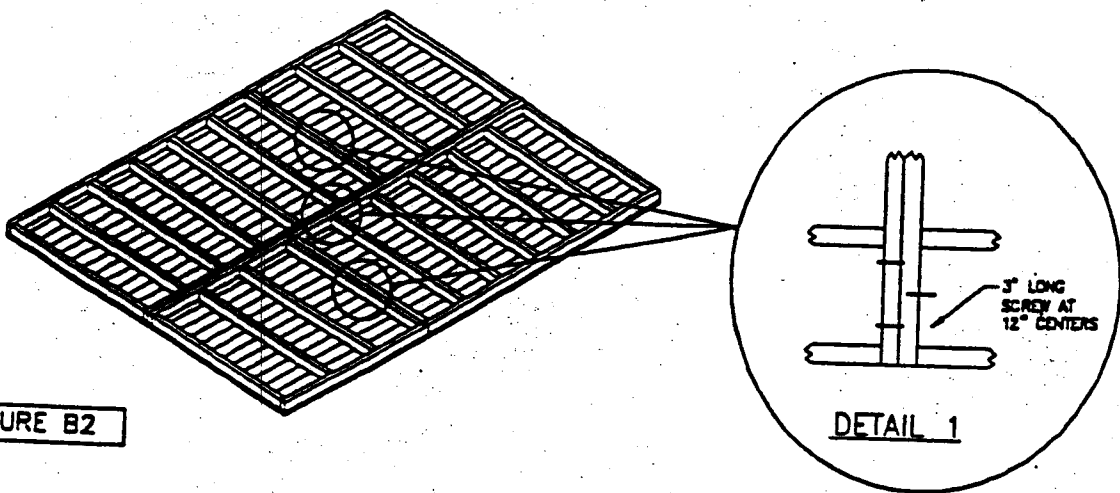

FIGURE B2
4. Using 10 – 3" long screws, fasten the floor sections together along the length of each section see Figure B2. (See Details 1).